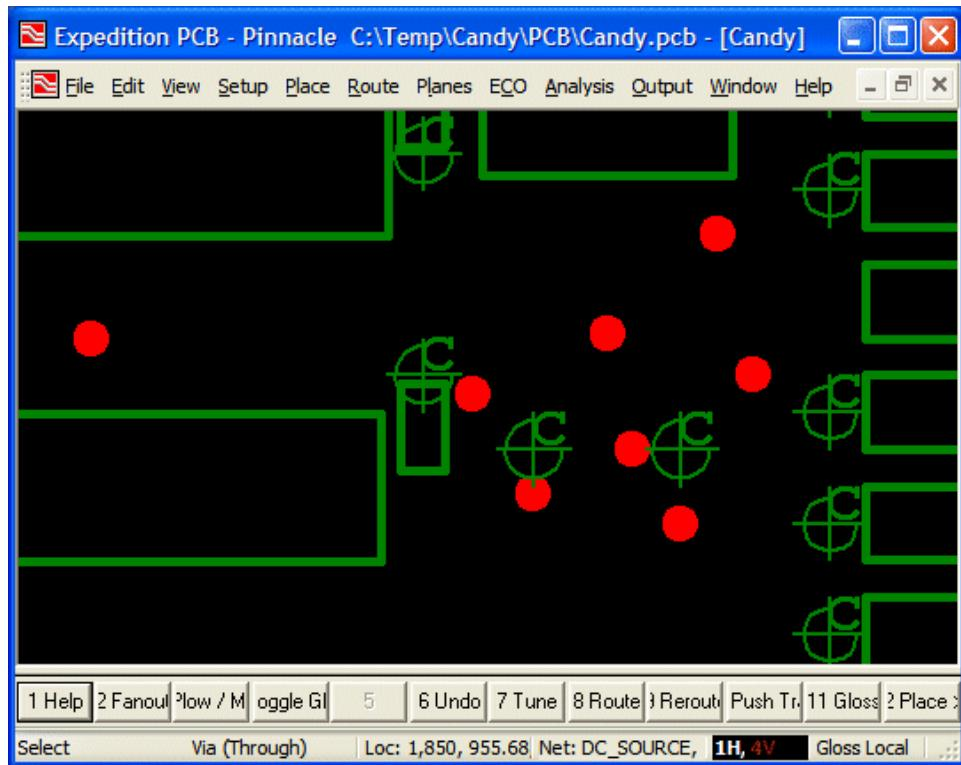

Figure 12-28. Turning other graphics off makes the new via caps easier to see.
- 6) In order to see these new graphics more clearly, use the **View > Display Control** menu command to turn off vias, holes, traces, pads, and so forth as illustrated in Figure 12-28.